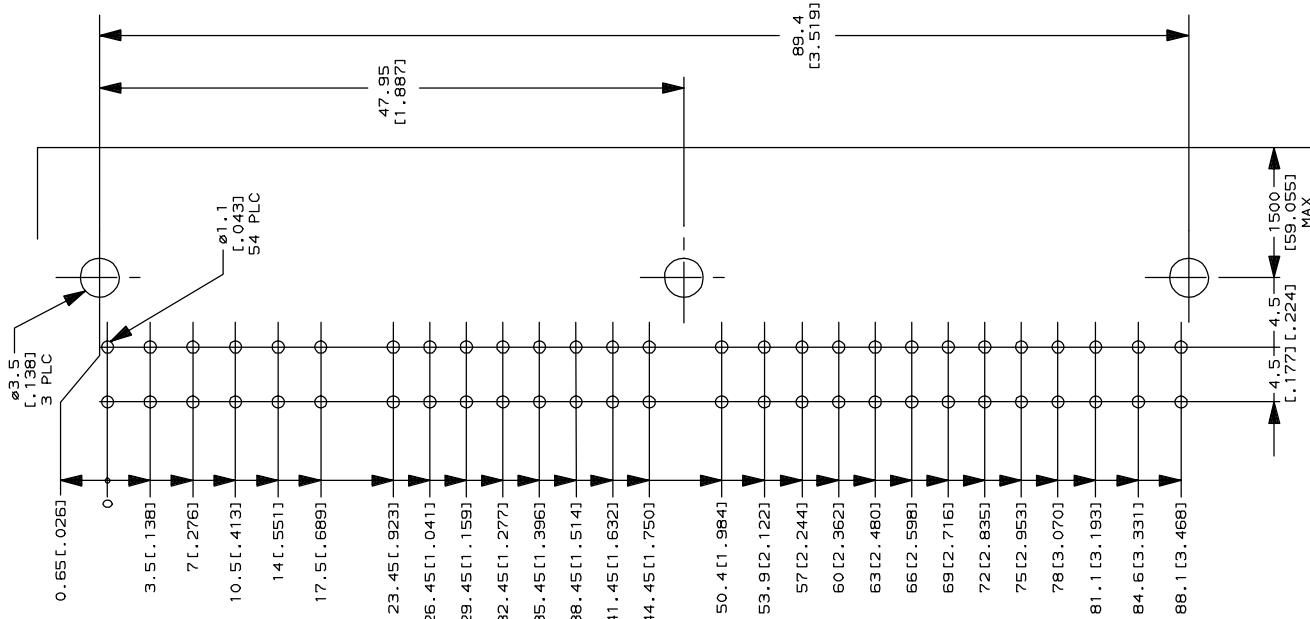

Figure 7
The mounting and contact holes in the pc board must be precisely located to ensure proper placement and optimum performance of the connector. See Figure 7. The connectors may be placed on the pc board manually or by machine.
*Figure 7 represents a **typical** pc board layout for this product. For dimensions and hole pattern layout for specific product, obtain the appropriate customer drawing through your TE Representative or refer to the telephone numbers at the bottom of page 1.*